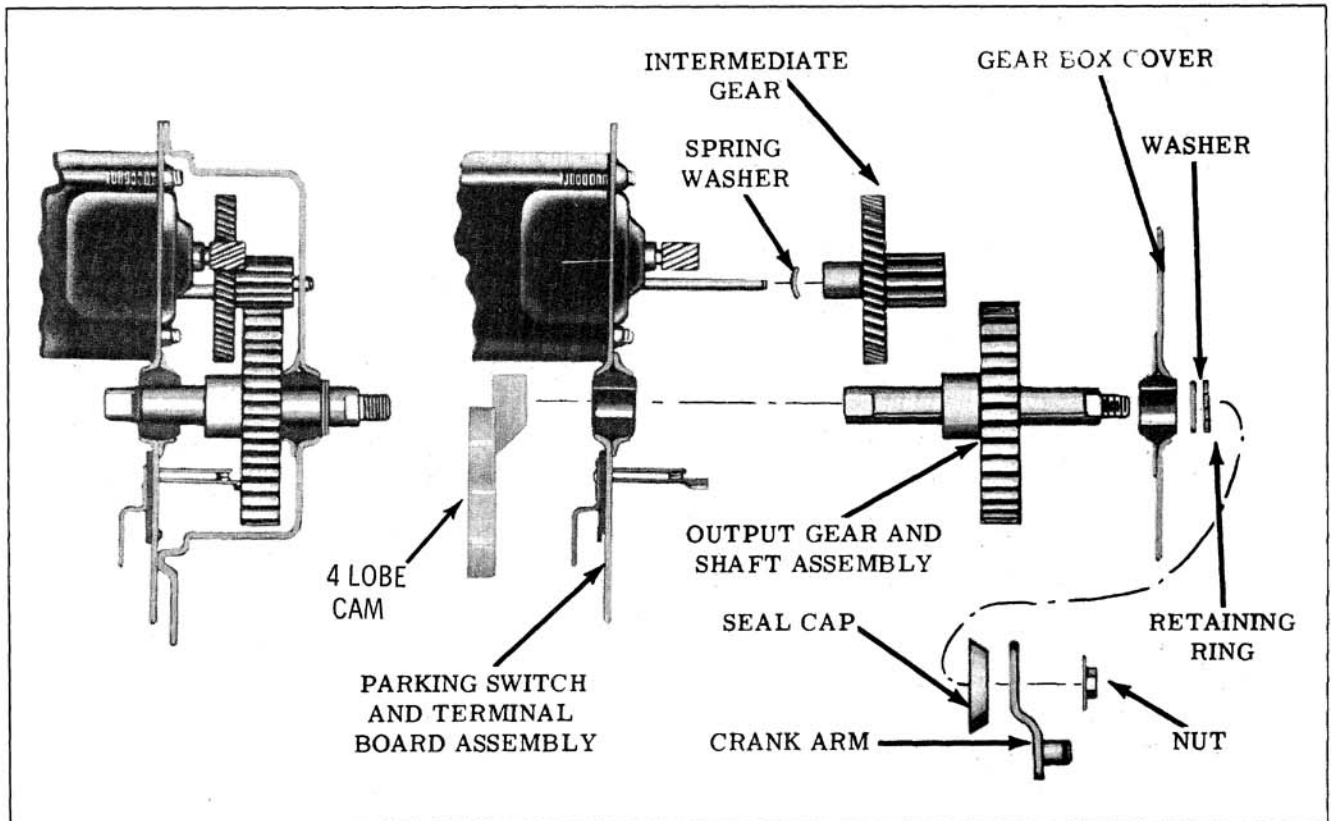

Fig. 13-164 Gear Box
3. Remove crankarm, seal cap, Tru-Arc retaining ring and end play washers. (Fig. 13-164)
5. Remove output gear and shaft assembly, then slide intermediate gear and pinion assembly off shaft. (Fig. 13-164)
6. Reassemble end play washers and retaining ring over output gear shaft. (Fig. 13-164) Use end play washers as required to obtain .005" maximum end play.